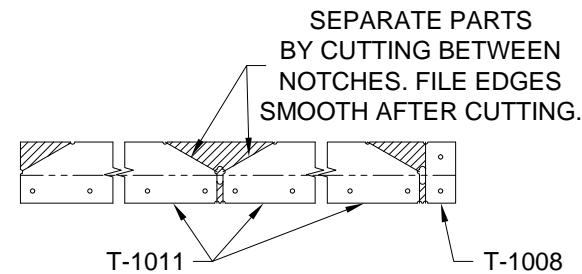

FIGURE 1: TANK STIFFENER TRIM DIAGRAM
Step 2: Trim T-1011 Tank Stiffeners as shown in Figure 1. (Figure 1 shows the untrimmed stiffeners "flat" or "un-bent" for clarity.)